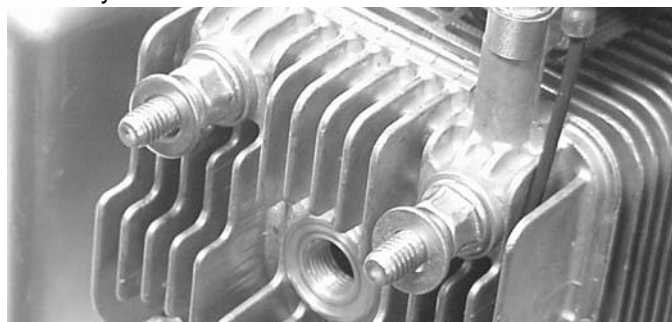

Fig. 84
1. Assemble a flat washer to each cylinder head bolt stud (Figure 84).